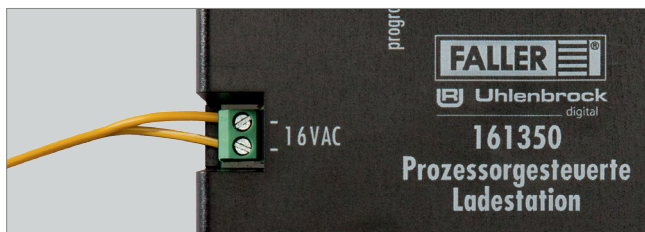

Fig. 2: Connecting the charging unit
- Connect the charging unit to 16 V alternating voltage, see Fig. 2.